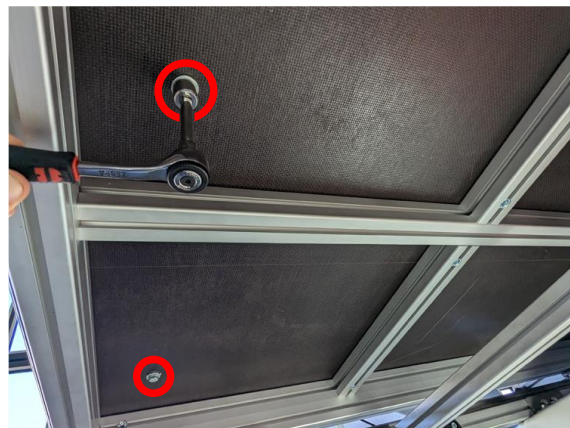

Figure 29: Adjusting the 90° angle of the lateral stop rail
1. Use the long side of the large flat angle (F) or a long ruler for this. Both stop rails must be exactly flush.
2. To readjust, loosen the mounting screws (J) on the underside and proceed as described in the text below ⇒ Figure 29.